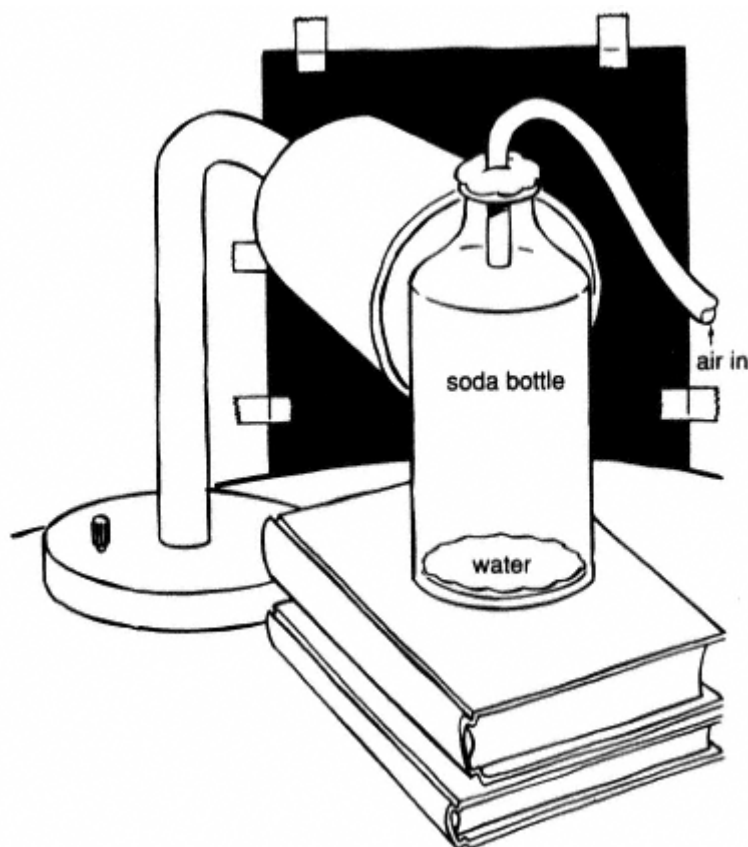

Figure 1.1
The actual size and shape of displays vary according to local science fair official rules. So, remember to check them out for your particular fair. Most exhibits are allowed to be 48 inches (122 cm) wide, 30 inches (76 cm) deep, and 108 inches (274 cm) high. Your display may be smaller than these maximum measurements. A three-sided backboard (see Figure 1.1) is usually the best way to display your work. Wooden panels can be hinged together, but you can also use sturdy cardboard pieces taped together to form a very inexpensive, but presentable, exhibit.
9. Tape the black paper to the wall behind the bottle so that it creates a dark background (see Figure 1.1).